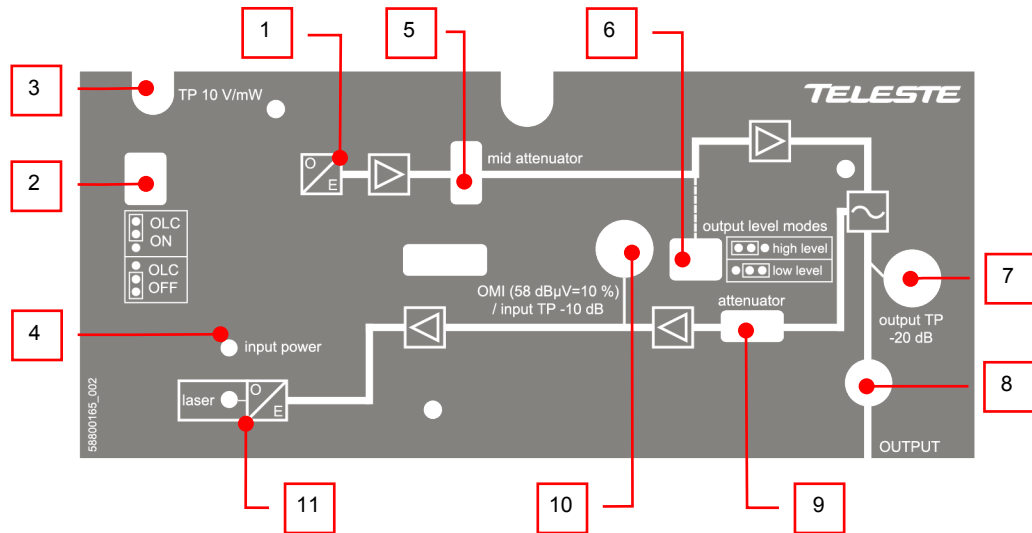

Figure 5. CXE860 front panel
Optical input power can be measured from the optical power DC voltage test point (Figure 5 pos. 3). The test point DC voltage is directly proportional to optical input power in mW e.g. 10 V corresponds to 1.0 mW average optical power for 1310 nm. Table below shows the correct measurements at the test point using a 1310 nm or 1550 nm transmitter.
The mainboard provides also a LED indicator (Figure 5 pos. 4) which gives a visual indication of the optical input power.
3. Optical Level Control (OLC) circuitry provides gain control that compensates for changes in input level caused by external variations. The available gain reserve is factory-set for optimum operation. If needed the output level can be adjusted with the midstage attenuator. You can however, set an internal jumper (Figure 5 pos. 2) to disable the OLC. This enables you to operate the CXE860 optical receiver at full gain for applications that do not require gain stabilization.
5. Use the output level mode jumper (Figure 5 pos. 6) to select the output level and midstage slope. Available options are high level modes: 11dB sloped, low level modes 9 dB sloped and 8 dB attenuated.
The return transmitter is aligned in production eliminating the need for any user adjustments. The level of return signal can be measured from the optical transmitter's OMI test point (Figure 5 pos. 10). In shielding cover of the CXE860 is described the fixed RF driving level at the OMI test point that gives 10% OMI. The return signal level should be adjusted to match this level. Table below shows the RF drive levels for different OMIs. The signal level is adjusted with the return path attenuator (Figure 5 pos. 9). The adjustment range is 20 dB.
The mainboard provides also a LED indicator (Figure 5 pos. 15) which gives a visual indication of the laser bias current.